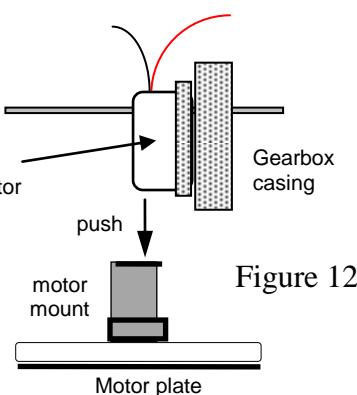

Figure 12
6.6 Push silver motor (not any part of gearbox casing) into motor mount **with motor casing on your right (Figs 12/14)** and with wires extending above the mount and with flat edge of gearbox next to motor plate. **The rear axle should be parallel with the back edge of the solar cell.**